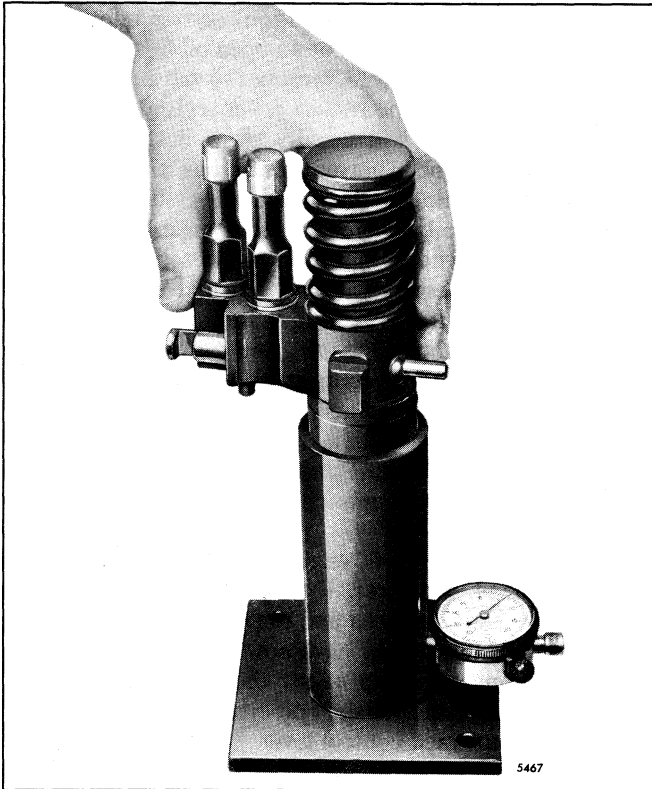

Fig. 31 - Checking Injector Spray Tip Concentricity using Tool J 23905
1. Place the injector in Tester J 23905 (Fig. 31) and adjust the dial indicator to zero.